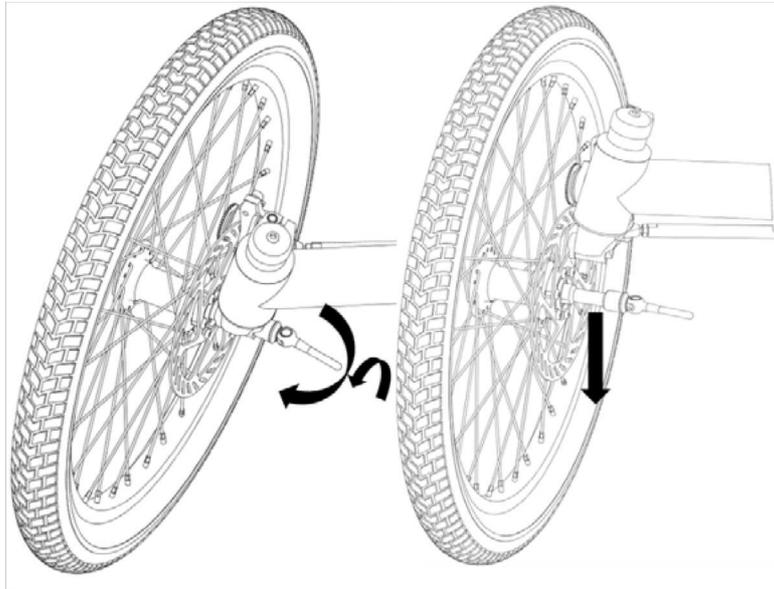

Figure 14 - Removing front wheel with QR axle
2. Open the QR, and unscrew it a bit (about 5 revolutions) (Figure 14).
3. Remove the wheel with QR axle (Figure 14).